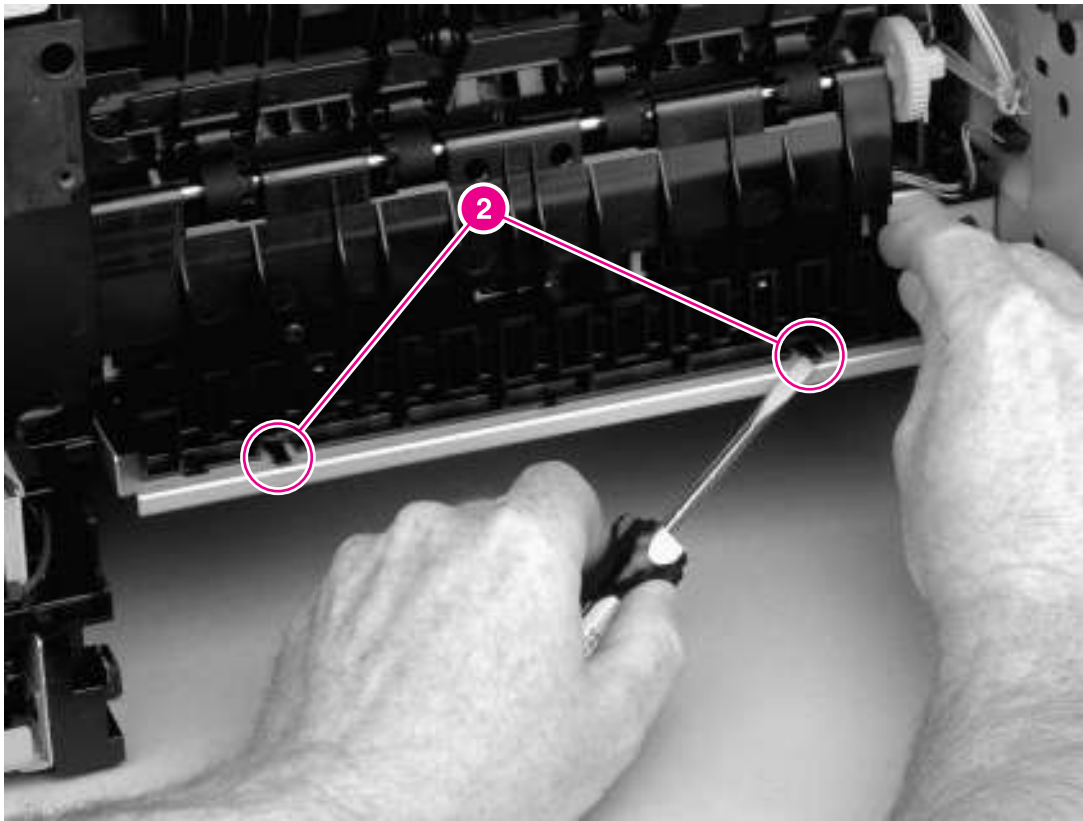

Figure 6-20 Removing the fuser (2 of 5)
1. Remove the back cover (see Back cover on page 76), the I/O cover (see I/O cover on page 80), and the duplexer inlet guide (see Figure 6-20 Removing the fuser \(2 of 5\) on page 94).